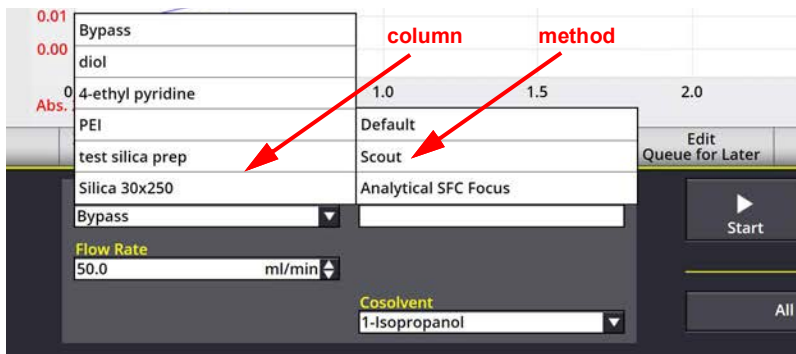

Figure 2-15 Loading the Scouting method
8. Select the scouting method you previously defined for that column (Figure 2-15).